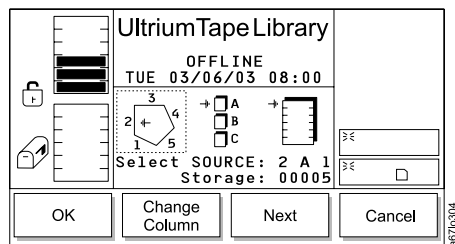

Figure 275. Get/Put Source Dialog
- c. Press the button below the **OK** softkey. The Get/Put Source Dialog displays (see Figure 275) with a message area that shows three icons:
The position of the arrow in each of the three icons identifies the storage slot's physical address. For example, arrows that point to a column 2, magazine A, and storage slot 1 indicate a physical address of 2 A 1. In the Get/Put Source Dialog, a slot's physical address displays below the right icon (see Figure 275).